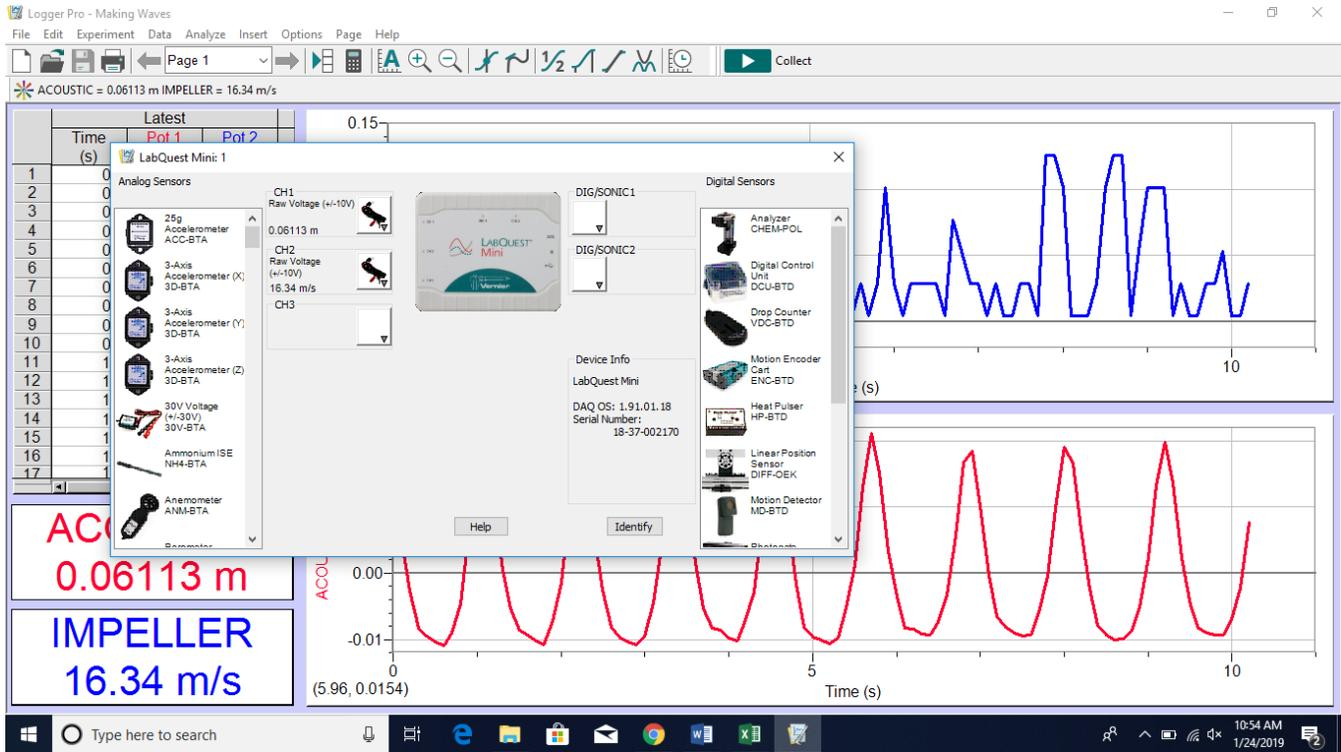

Figure A30. LoggerPro screenshot showing options for setting up sensors (ONLY IF NEEDED).
- A new window will open (Figure A30).